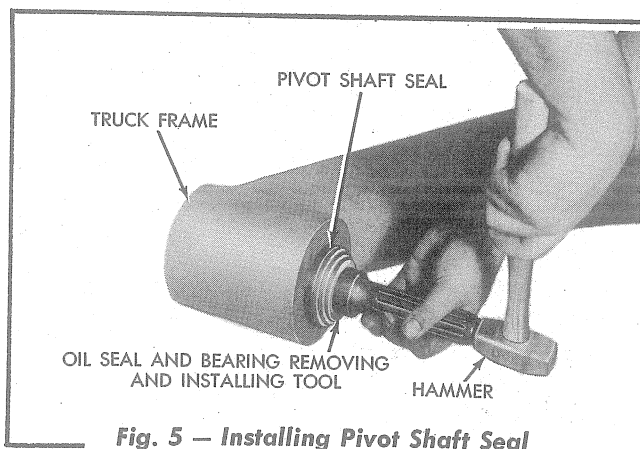

Fig. 5 — Installing Pivot Shaft Seal
- Install a new pivot shaft seal at each end of the pivot shaft bushing as shown in Fig. 5, making certain the sealing lips of the seals are directed toward the outside. Lubricate the pivot shaft and install it into position in the bushing, making certain the sealing lips of the seals are not damaged and that the oil hole in the shaft will be to the inside of the tractor and positioned on the top as installed.